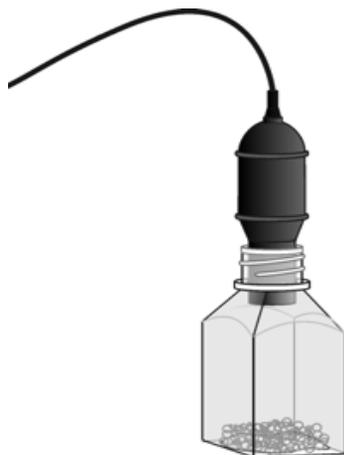

Figure 1. Vernier O₂ gas sensor probe and reaction chamber ready to collect data.
- one plastic **Vernier respiration chamber** (Figure 1) with plastic cap
1. **Carefully** place the O₂ sensor into the plastic reaction chamber (Figure 1).